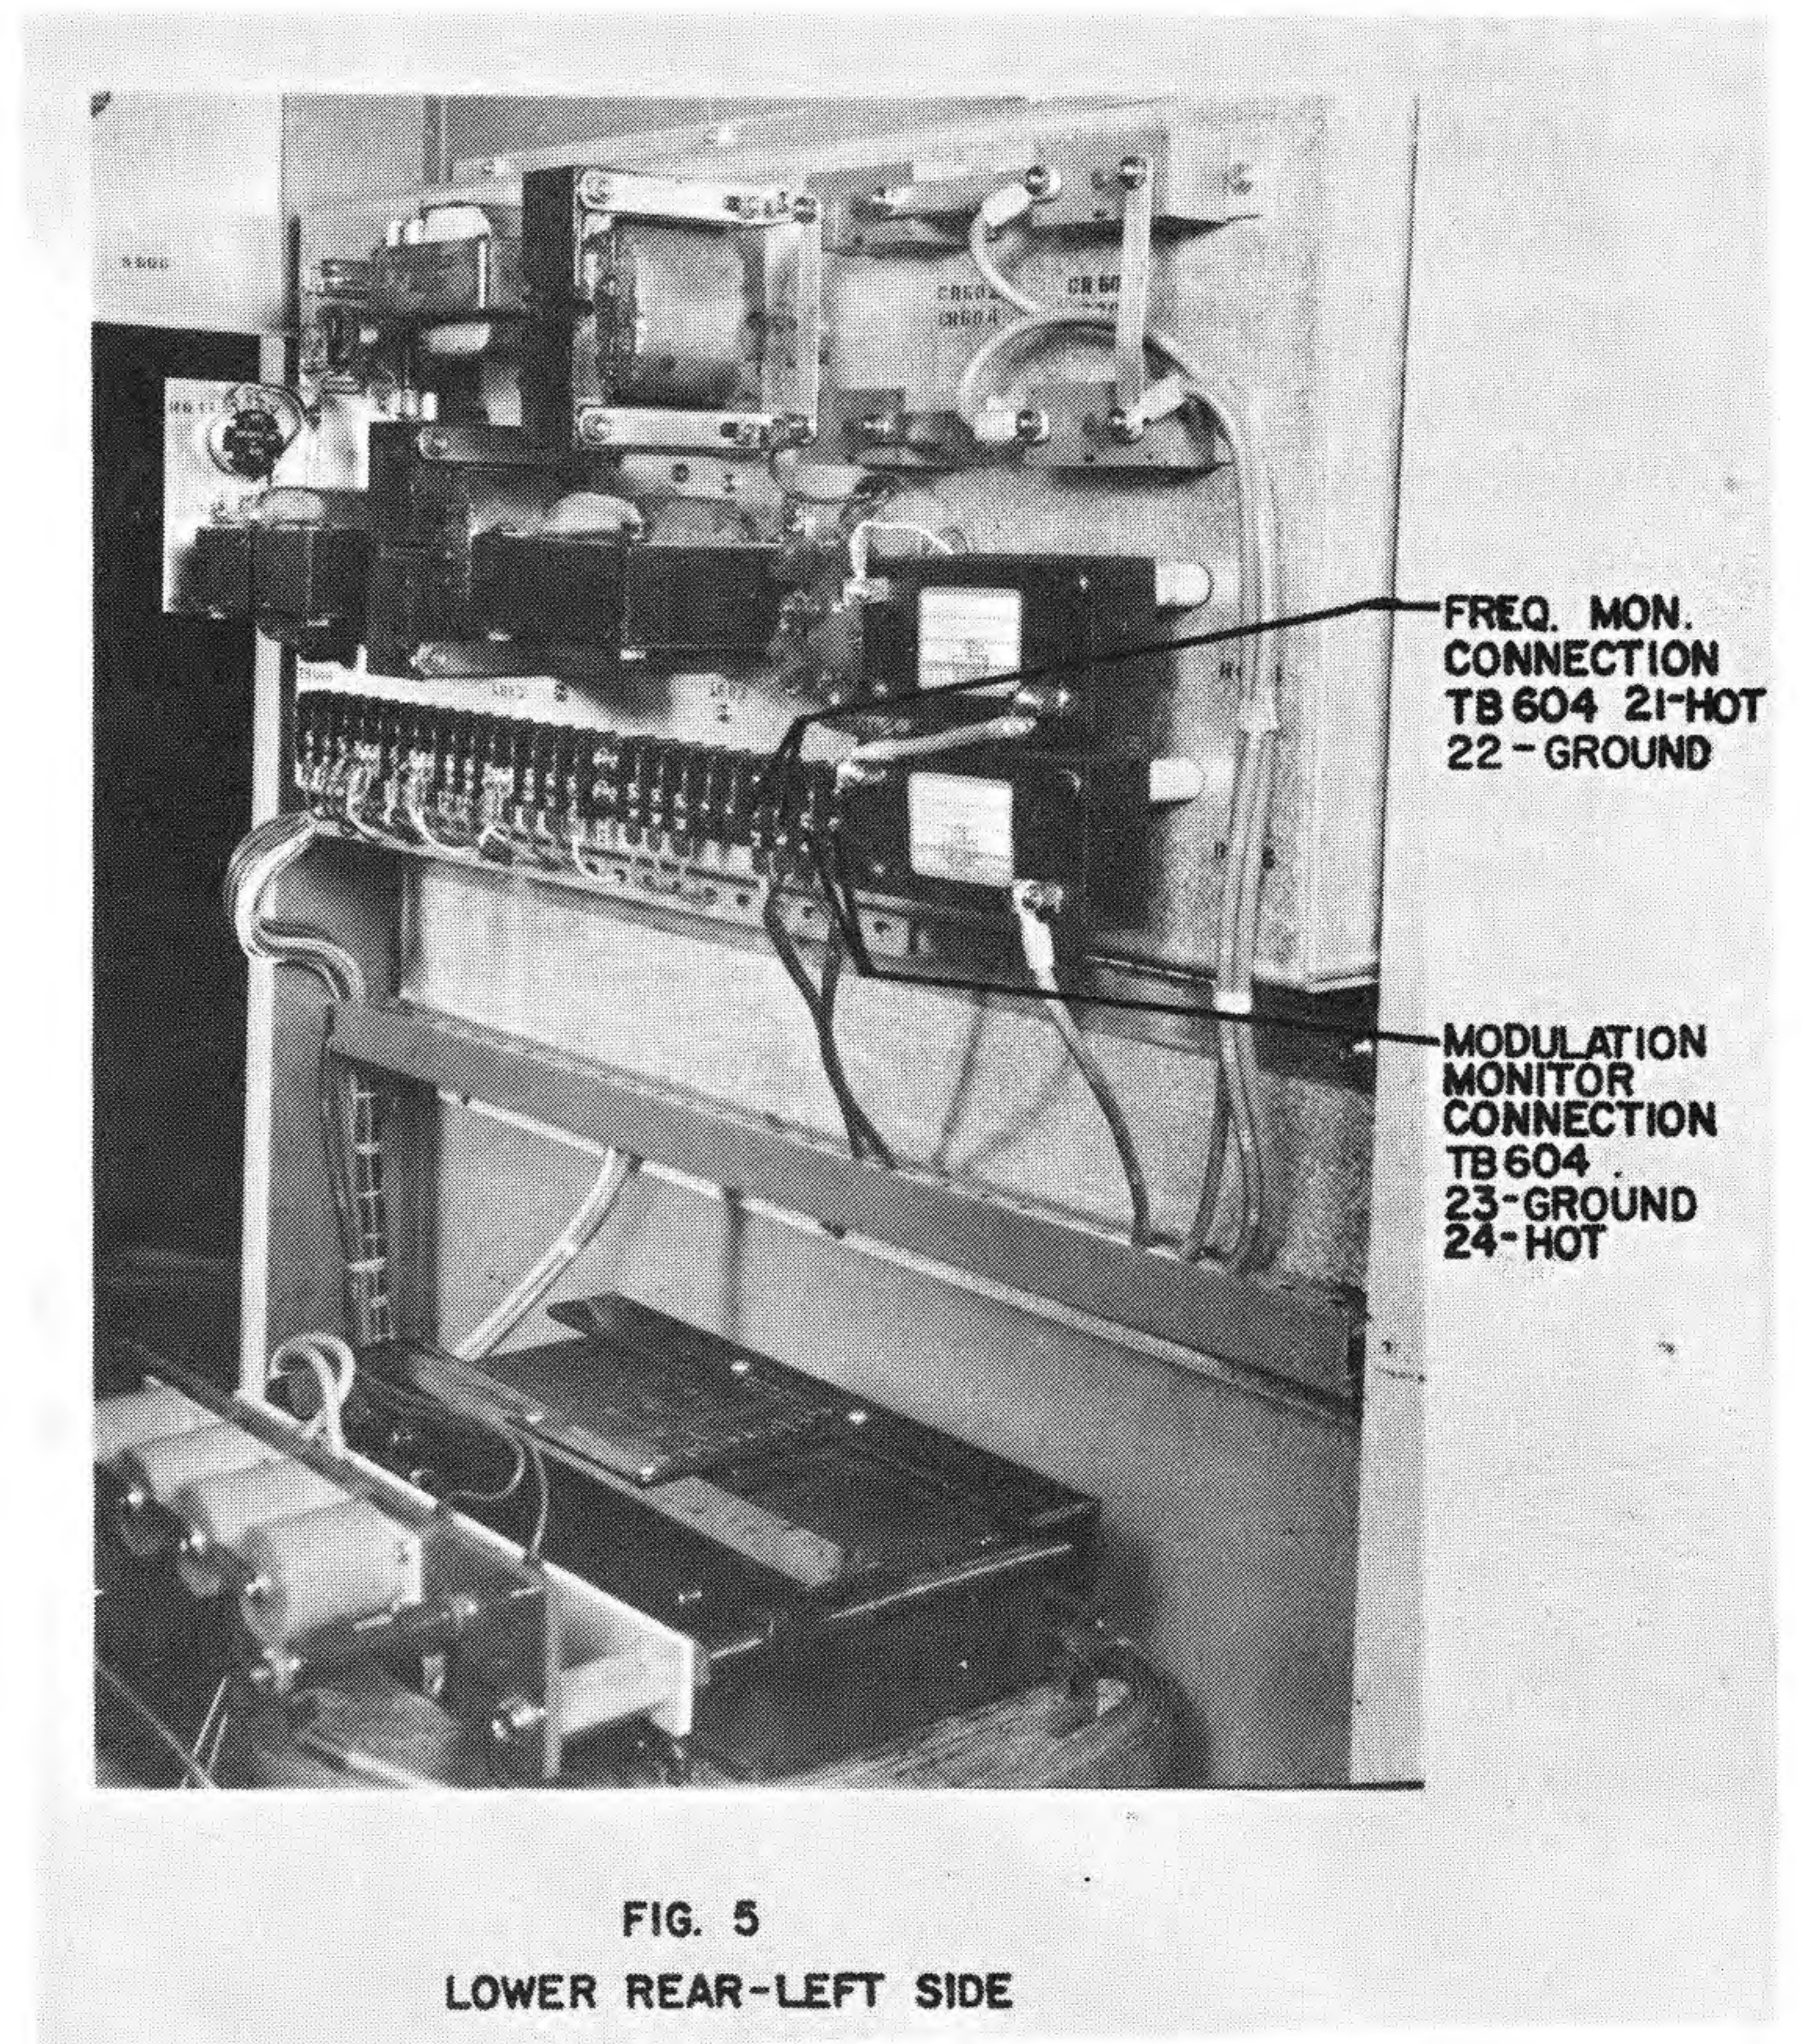

FIG. 5
6. Connect the center conductor of the modulation monitor coaxial line to terminal #24 on the terminal board 604 shown in Fig.5, Page 7. Connect the shield of this coaxial line to terminal #23. See Page 12 for adjustments.